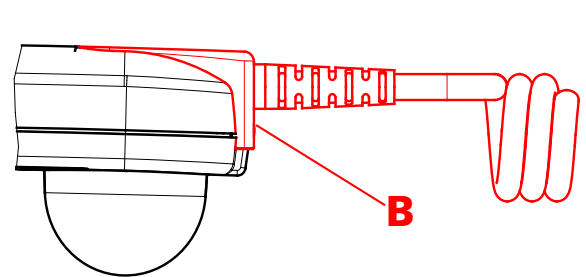

Figure 11: Handset Side / Unplug Connector
2. Unplug the connector (B) and remove the cable from the handset. (Fig. 11)